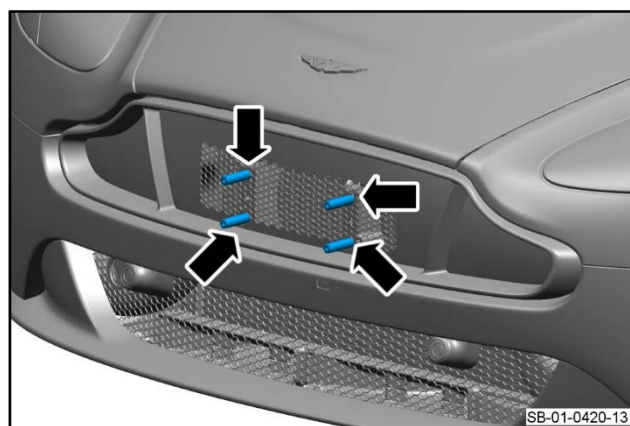

Figure 13
4. Install and torque the four bolster studs to the front bumper armature to 23 Nm (refer to Figure 13).